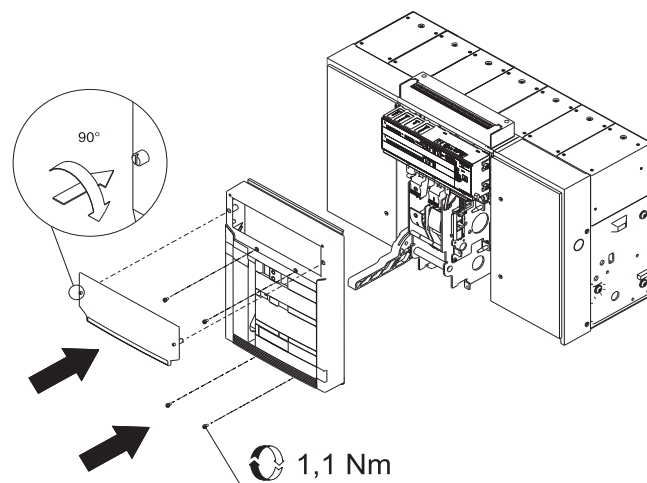

Fig. 37
- Refit the cap as indicated in figure 37.